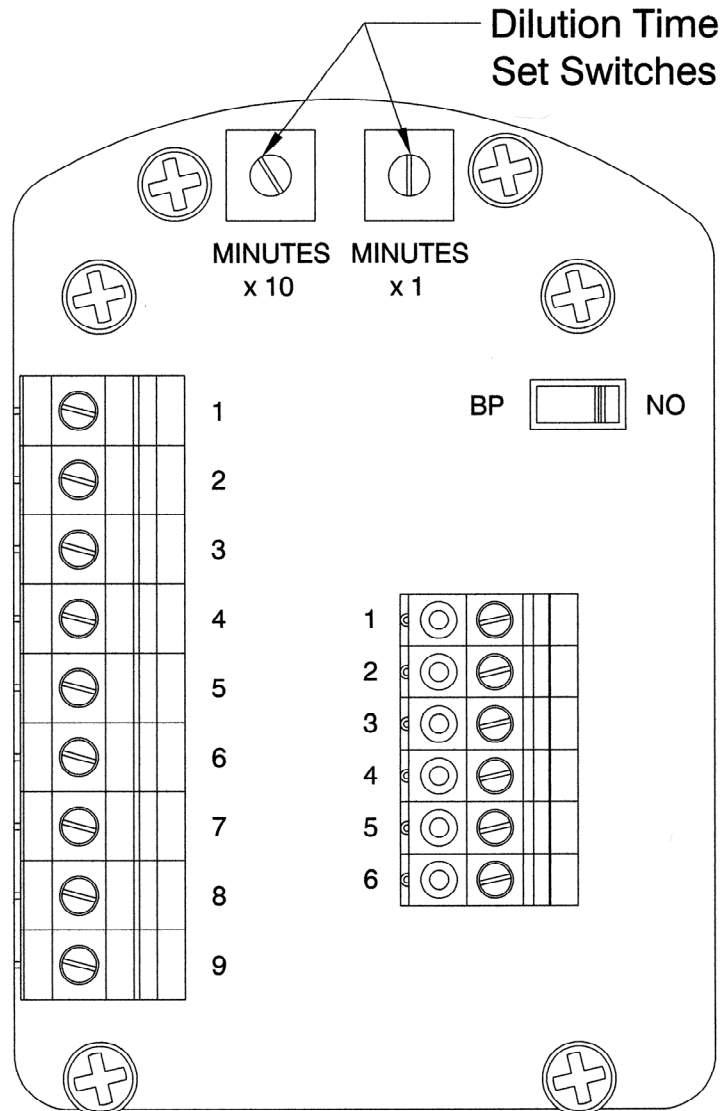

Figure 2
With TRYCLOPS X – Purge Controller, SM Version cover open set automatic dilution time cycle in the TRYCLOPS X – Purge Controller, SM Version to ensure that at least five (5) times the volume of free space in the electronics enclosure is exchanged before power is automatically applied to the electrical equipment from the TRYCLOPS X – Purge Controller, SM Version. Refer to Figure 2 for location and details of dilution time switches in TRYCLOPS X – Purge Controller, SM Version.